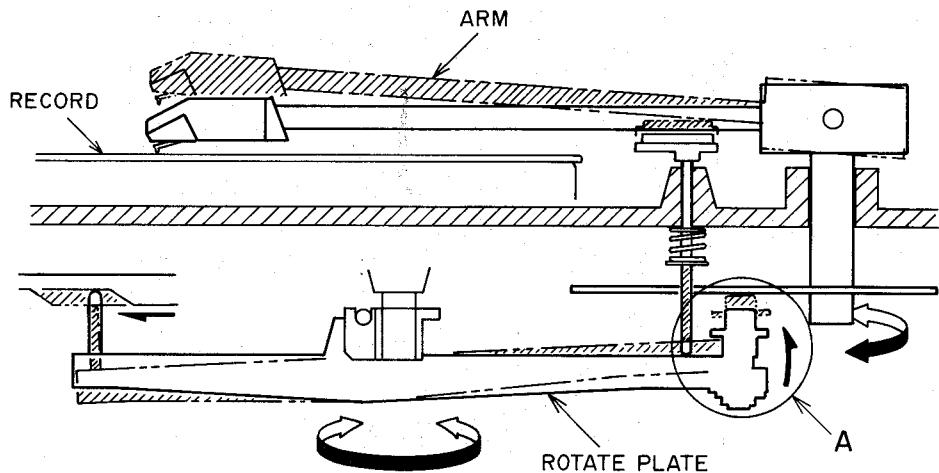

Fig. 5-11
8) Arm motion during lead-in and lead-out is started by friction pressure on part A shown in Fig. 5-11 (Loading arm and friction rubber).